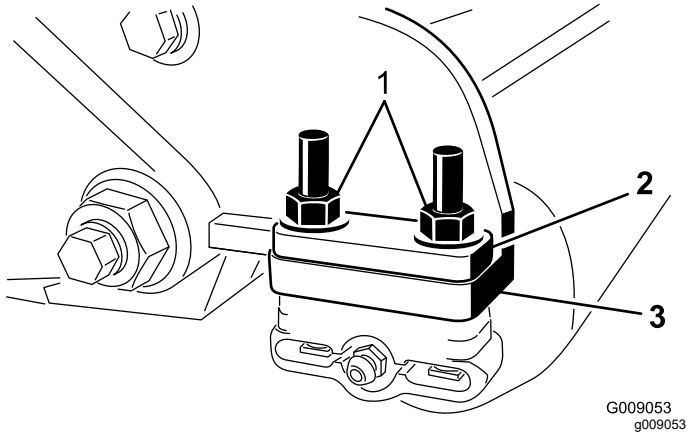

Figure 23
9. Remove the 2 nuts securing each roller bracket to the side plates (Figure 23). Do not remove the bolts.